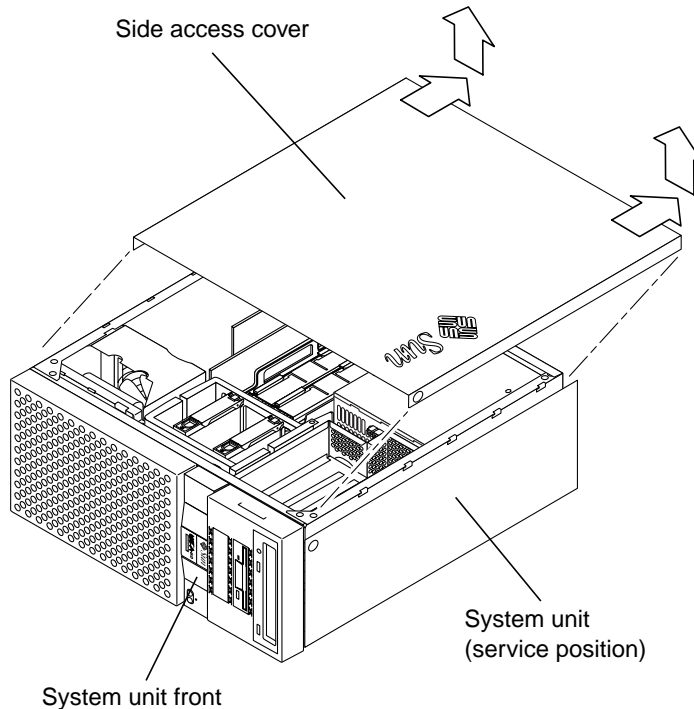

FIGURE 7-2 Removing the Side Access Cover
3. Remove the side access cover as follows (FIGURE 7-2):